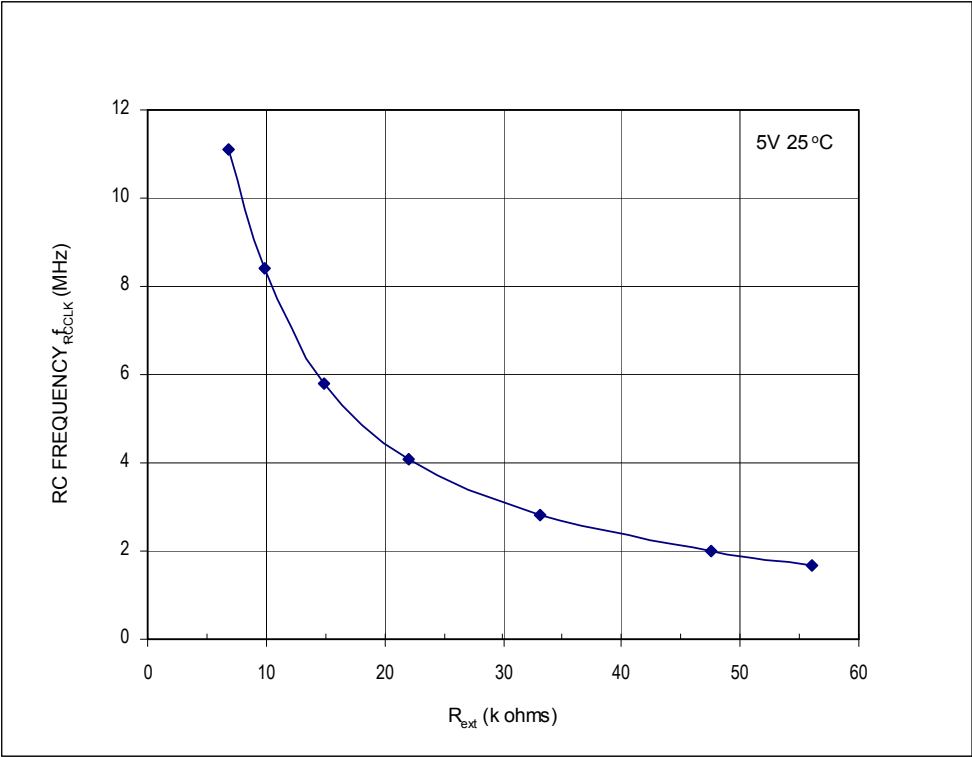
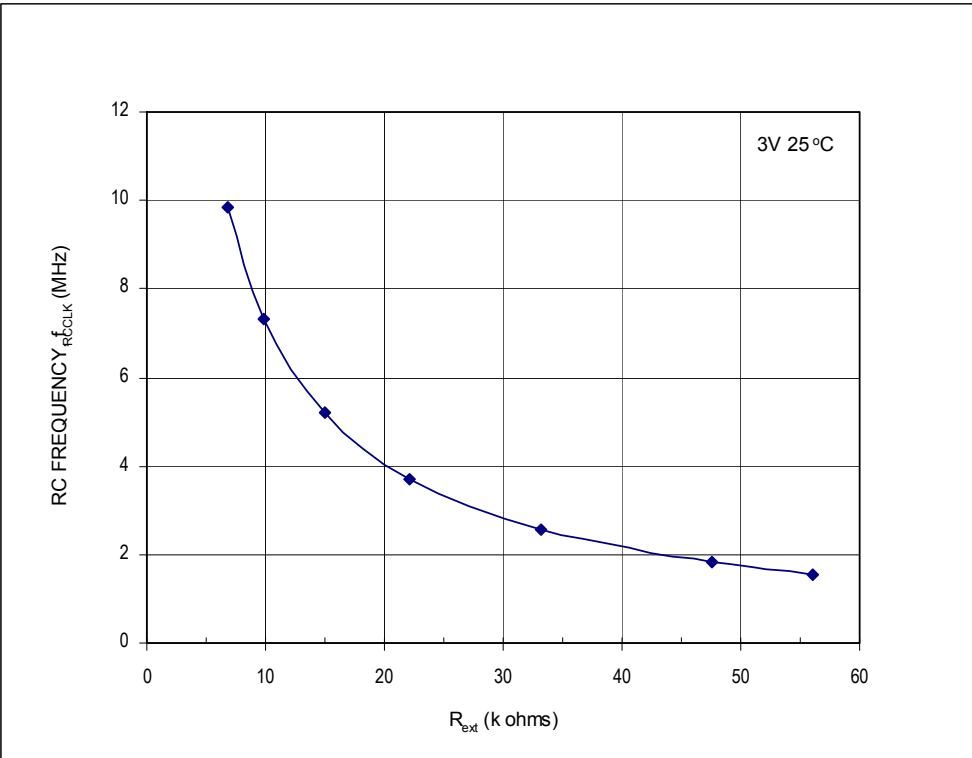

Figure 16-7. RC versus Frequency (5 Volts @ 25°C)
Figure 16-8. RC versus Frequency (3 Volts @ 25°C)
| RC oscillator external resistor (3)$V_{DD} = 5V$$V_{DD} = 3V$                                                                                                                                                                    | $R_{EXT}$                                         | See Figure 16-7See Figure 16-8 |                                                  |                            | —                                |